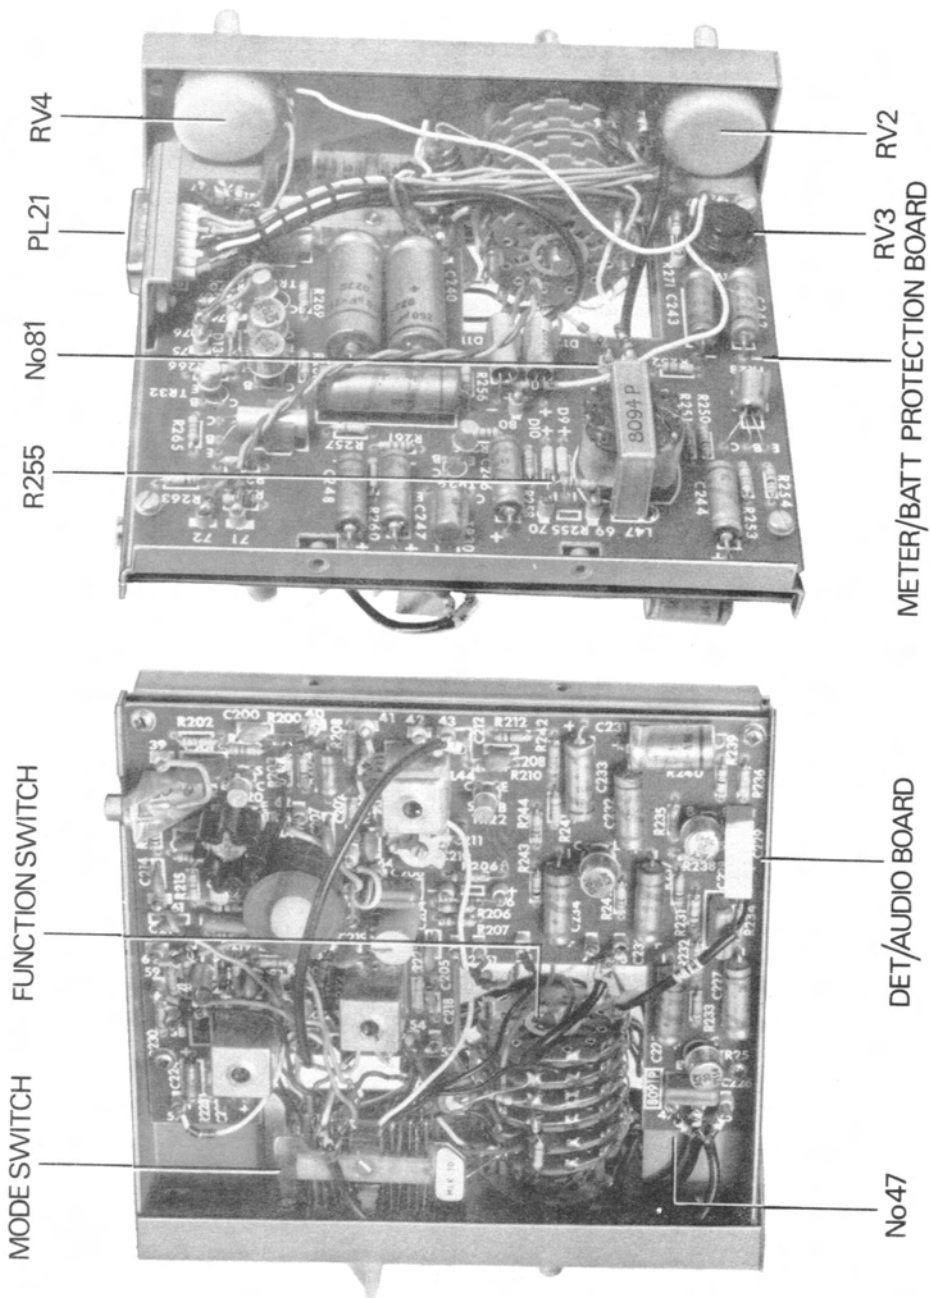

Fig. 10. Internal views of Det/Audio & Meter/Battery Protection Unit.
2. Connect audio generator to P/C Terminal No. 47. (see fig. 10).
7. Check that input to No. 47 for output in (6) is of the order 50mV.